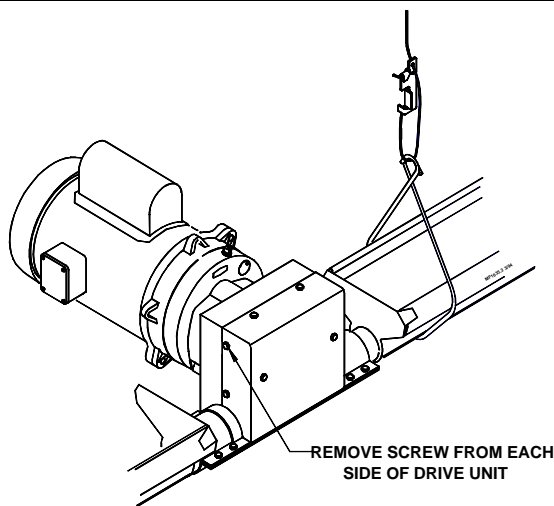

Figure 1.
1. Remove the screw, shown in Figure 1, from each side of the Driver Assembly.